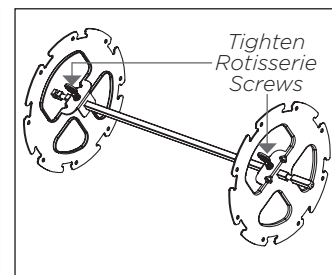

Fig. 2
- 2 Place another Side Wheel on opposite end of Rotisserie Rod and tighten the other Rotisserie Screw. See Fig. 2.